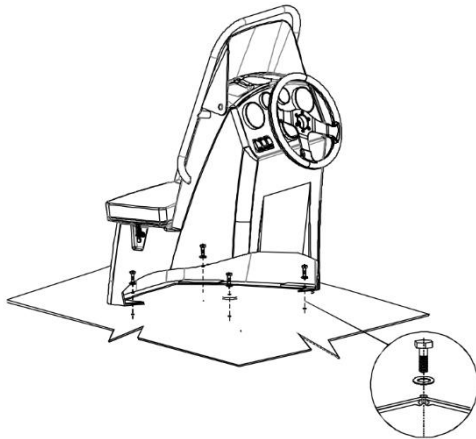

Fig. 8. Installation of steering console CL-11.
- Fix steering console to the deck by means of bolts M8\*25 and toothed lock washer (fig. 8).